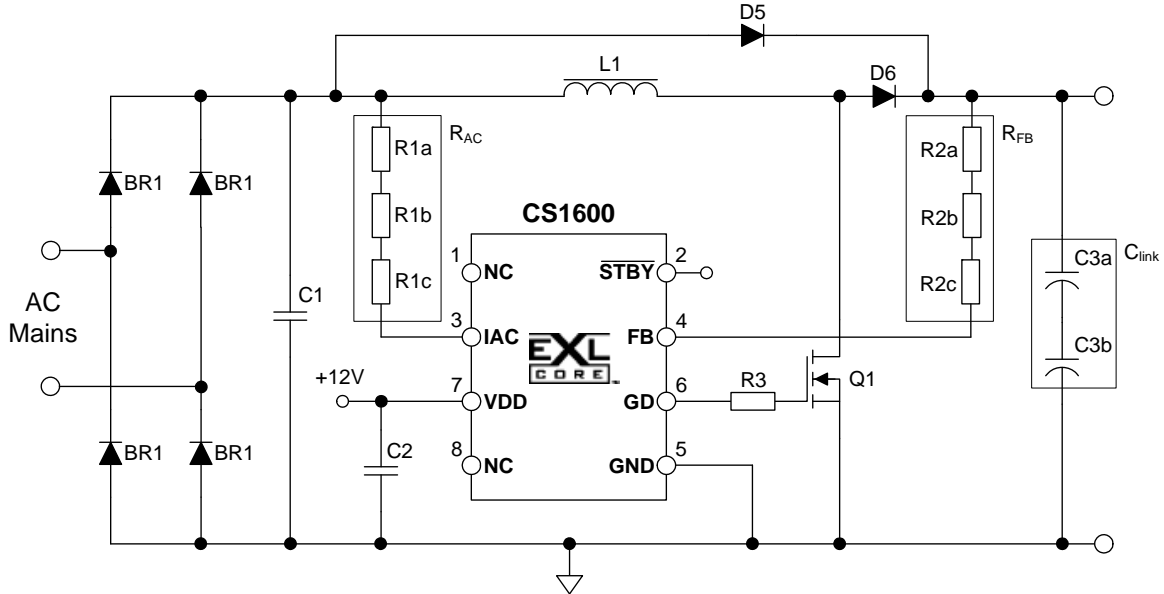

Figure 17. CS1600 Basic Application Circuit
**5.2 Bill of Materials (for Application Example shown in Figure 17)**